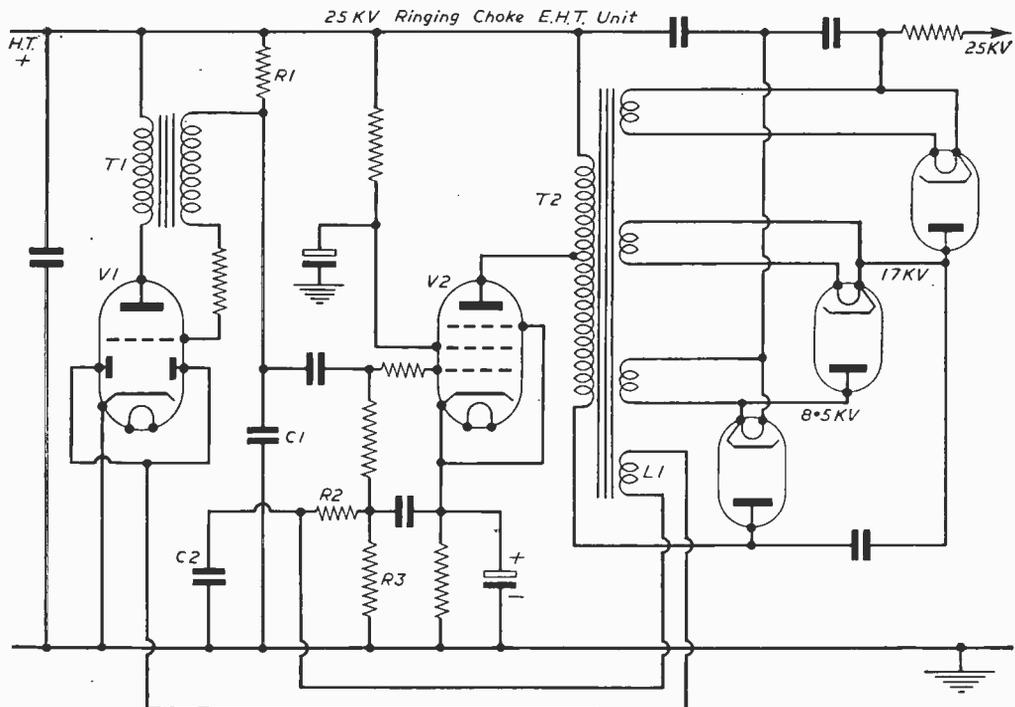

Fig. 47.—25kV ringing choke EHT unit.
**P**ROJECTION receivers are often thought of as being completely different from conventional receivers. There are differences and these mainly lie in the EHT circuits and in the timebase and other circuits associated with the C.R. tube. A typical circuit for the EHT generator in a projection receiver is shown in Fig. 47. V1 is a double diode triode, the triode section acting as the blocking oscillator with T1. The sawtooth waveform generated is about 1kc/s, this is applied to the control grid of the EHT generator valve V2. This valve is biased below cut off, but during the latter part of the positive-